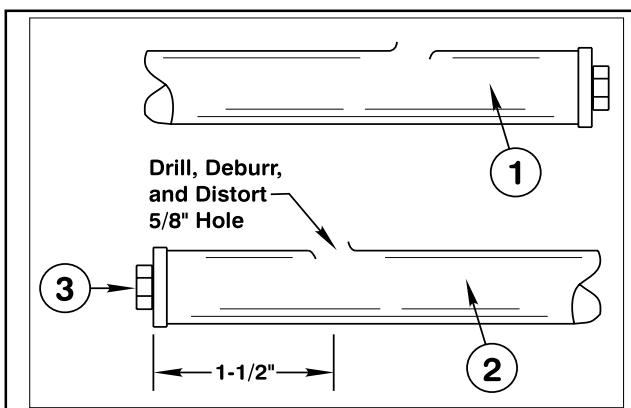

Fig. 6
13. Locate, mark, and drill, (DRILLING THROUGH THE TOP SURFACE ONLY,) one 5/8" dia. hole at 1-1/2" from the plugged end of the right Boom Pipe. Repeat on left Boom Pipe. These holes are used for the installation of the Boom Hoses. (Fig. 6)
14. Using a round file or deburring tool, deburr holes previously drilled into Boom Pipes. (Fig. 6)
15. Insert a drift punch into the 5/8" holes in Boom Pipes and distort opening as shown in Fig. 6. This will allow for easier installation of the Boom Hoses.